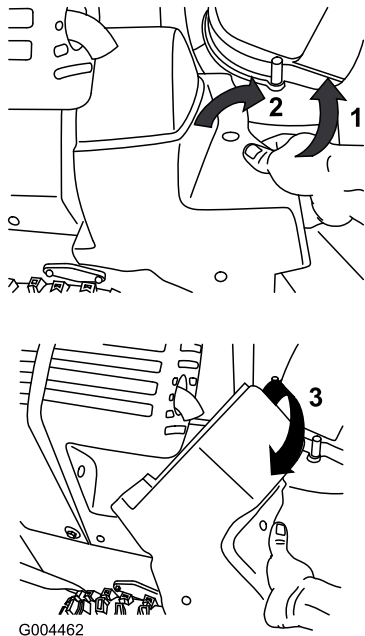

Figure 37
3. Remove the fasteners on the right belt cover, then remove the cover in the sequence shown in Figure 37.